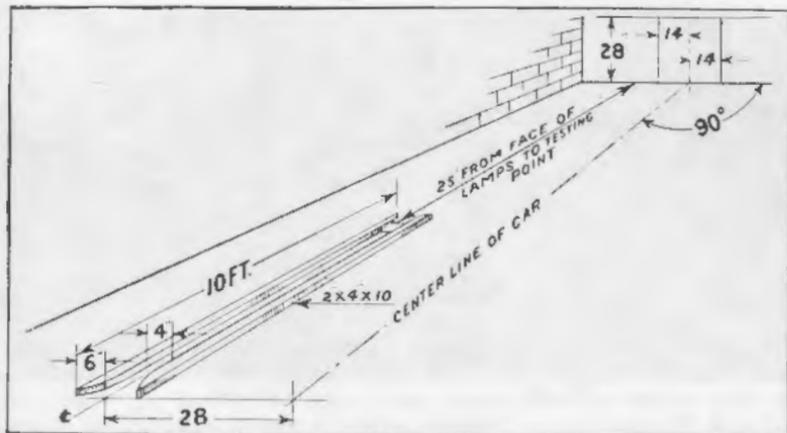

Fig. 537
- 1155 On the improved car, the headlamps are set higher and further apart; this has been accomplished by mounting the headlamps on the fenders. The new method of assembly necessitates dealers making a few changes in the dimensions of their shop layouts used for focusing and aligning headlamps. Fig. 537 shows the new layout.
1159 Proper alignment is readily checked by means of a horizontal line on the wall in front of the car 28 inches above the level surface of car, and two vertical lines 28 inches apart, each one 14 inches from center line of car. Proper alignment of car relative to marks on the wall may be readily provided by use of wheel guide blocks for one side of the car, as shown in Fig. 537. If it is impractical to tie up the floor space required by these blocks, marks painted on the floor can be used to show where one set of wheels should track and where the car should be stopped.